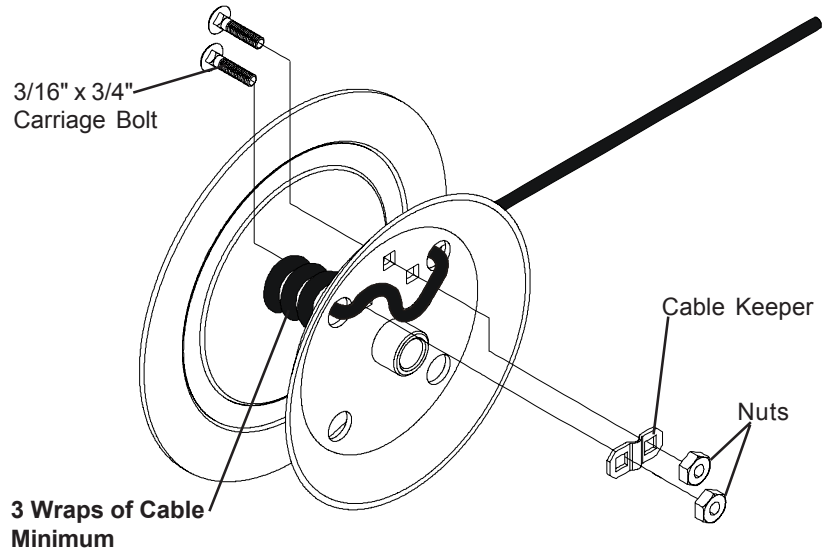

Fig. 15-E
- G. Clamp the cable to the outside of the winch drum with the cable keeper, using two (2) 3/16" x 3/4" carriage bolts. Bolt heads should be on the inside of the winch drum. (See Fig. 15-E.)